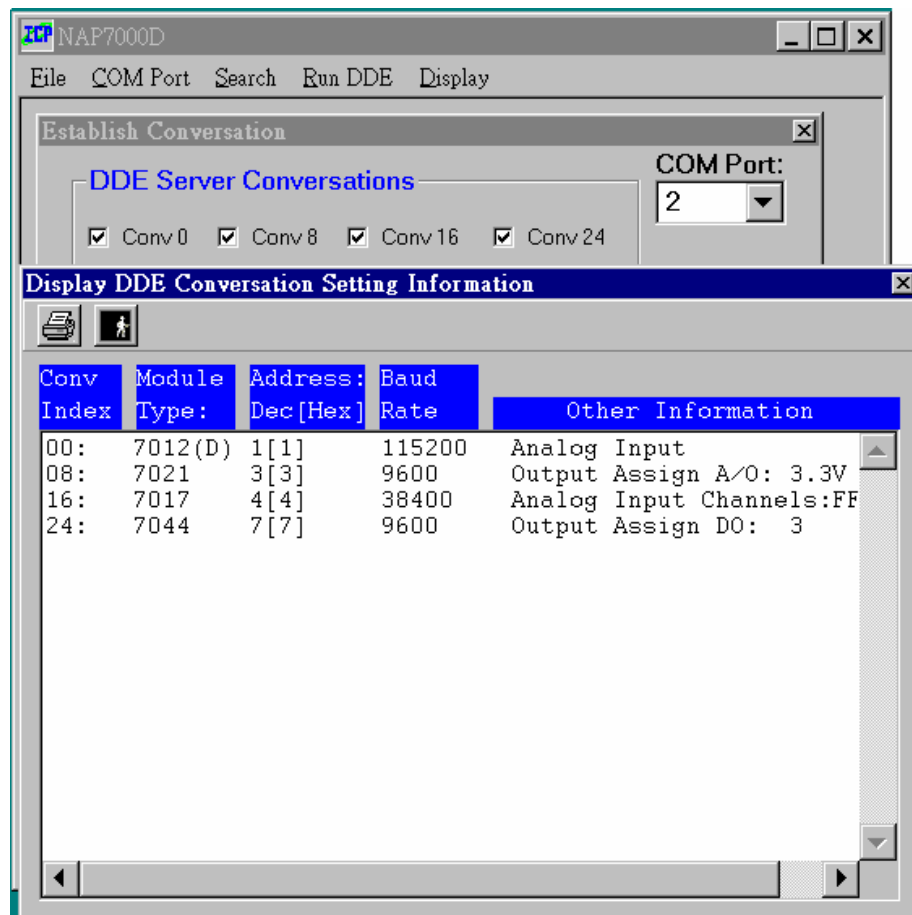

Fig 3-15 The various information for DDE conversation setting.
Step 1: Setting the configurations for these four CB-7000 modules as Fig 3-15 shown.